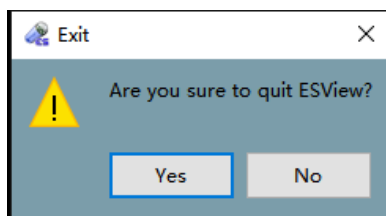

Figure 4-77: Exit Dialog Box
1. In the main software interface, select “File” → “Exit” in the menu or click the  button on the upper right corner, then on the pop-up dialog box (Figure 4-77) click “Yes” to exit or “No” to cancel.